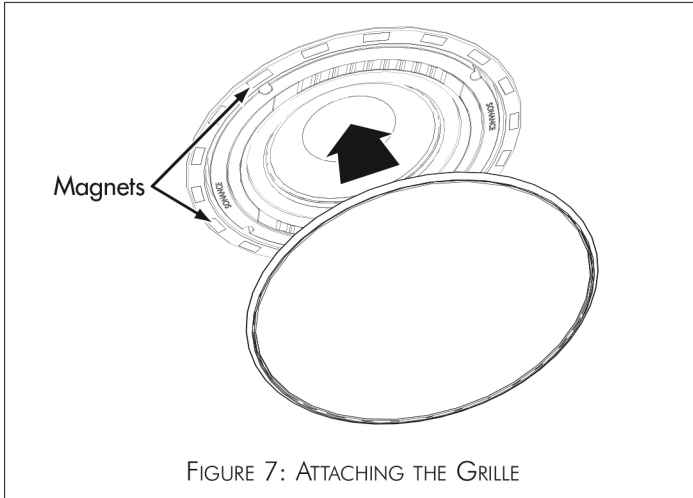

FIGURE 7: ATTACHING THE GRILLE
- The micro-trim grille is held in place by several small, powerful magnets on the woofer frame. Place the grille against the woofer and the magnets will hold it firmly in place (see *Figure 7*). When the woofer is properly installed, the grille trim should make contact with the wall or ceiling all the way around the woofer.